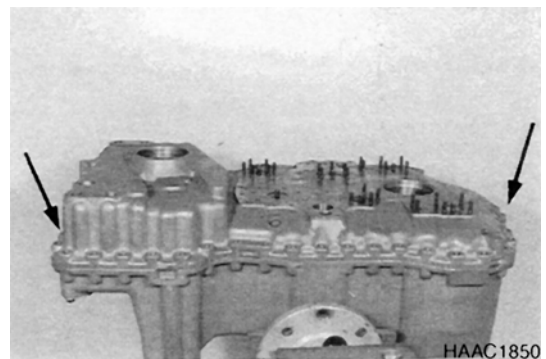

Figure 115
7. Drive both cylindrical pins (Figure 115) out.